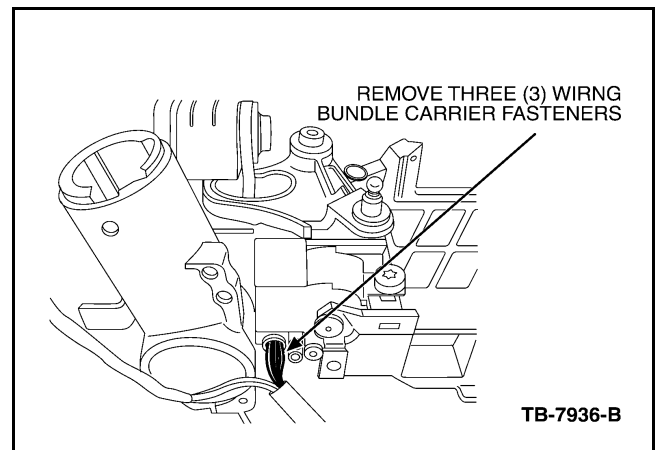

Figure 3 - Article 04-22-12
3. Remove the three (3) wiring bundle carrier fasteners from the bottom of the steering column to allow movement while removing the BSI switch. It may be necessary to release the connectors from the multifunction switch (Figure 3).